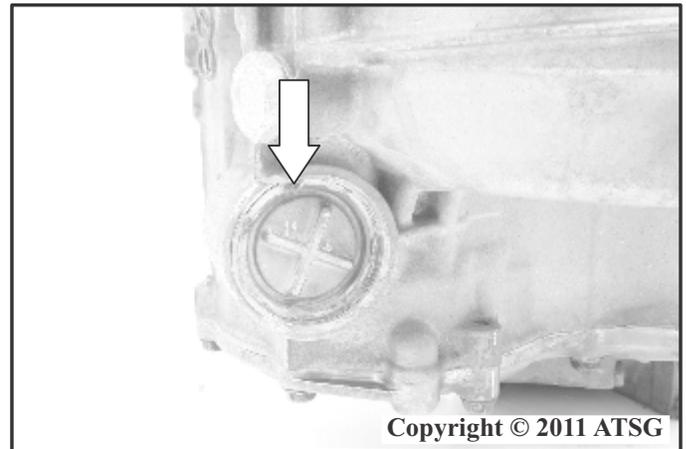

Figure 50
73. Using a pair of snap ring pliers, remove the snap ring that retains the cover of the 3rd gear (B4) band servo as shown in Figure 50.
74. Remove the 3rd gear (B4) band servo cover as shown in Figure 50.
76. Remove the 3rd gear (B4) band servo and return spring as shown in Figure 50.